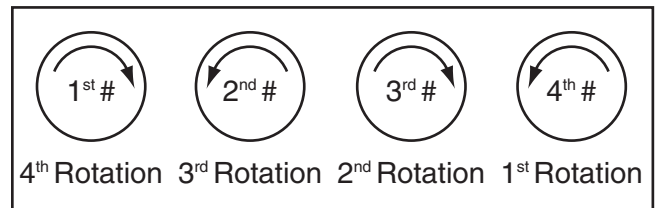

Figure 2. Sequence of dial rotation.
1. Rotate the combination dial three rotations past the first combination number, then stop on it the fourth rotation, as illustrated in Figure 2.